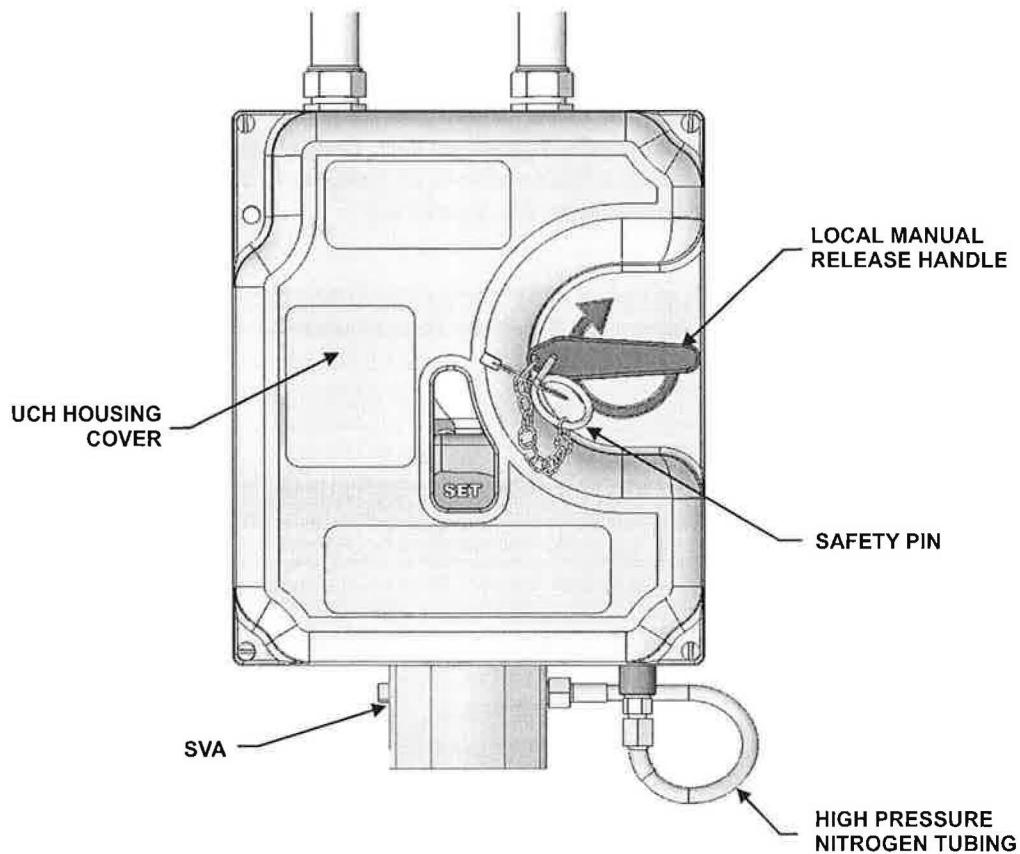

Figure 5-14. UCH Control System, Cover Attached
2. Locate the cover of the UCH Control System. Ensure that the local manual handle is set and that the Safety Pin is inserted (see Figure 5-14). The handle should be locked in the set position. If the handle can turn, adjust until the pin can be inserted all the way through the handle into the body of the cover.